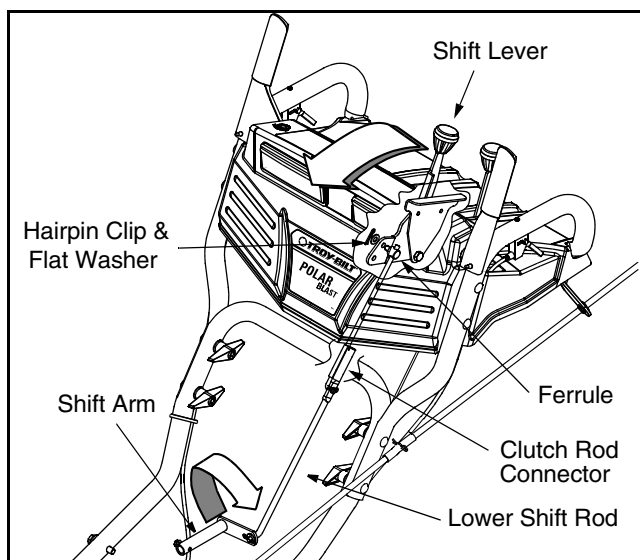

Figure 12
- Place shift lever in sixth (6) position (fastest forward speed).
- Rotate the ferrule up or down on the shift rod as necessary until the ferrule lines up with the upper hole in the shift lever. See Figure 12.